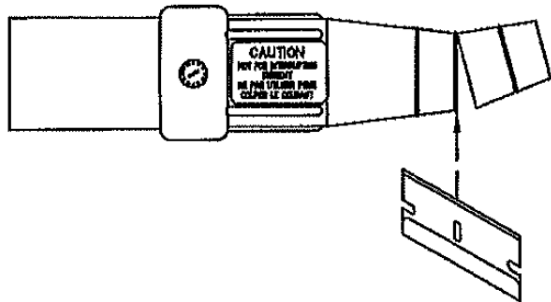

Figure 2
2. Cut the sleeve of the E1016 Cam-Lok so that the inner diameter matches the OD of the cable jack. See Figure 2.